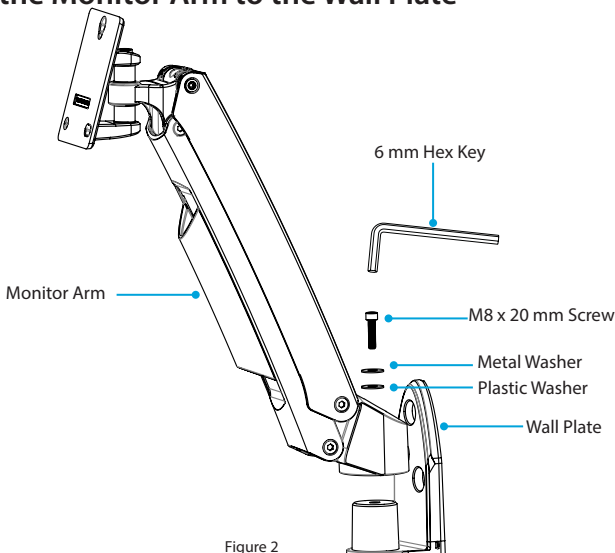

Figure 2
4. Insert the **M8 x 20 mm Screw** through the **Washers** and into the **Mounting Peg**, located on the **Wall Plate**, and tighten, using the **6 mm Hex Key**. (Figure 2)